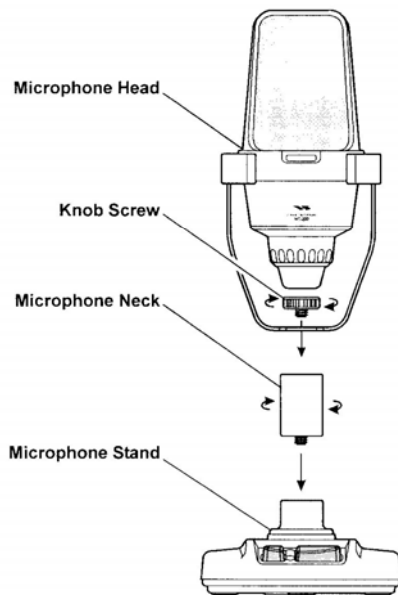

Figure 1
1. Screw in the Microphone Neck into the Microphone Stand, then mount the Microphone Head onto the Microphone Stand, using the supplied Knob Screw (see Figure 1).